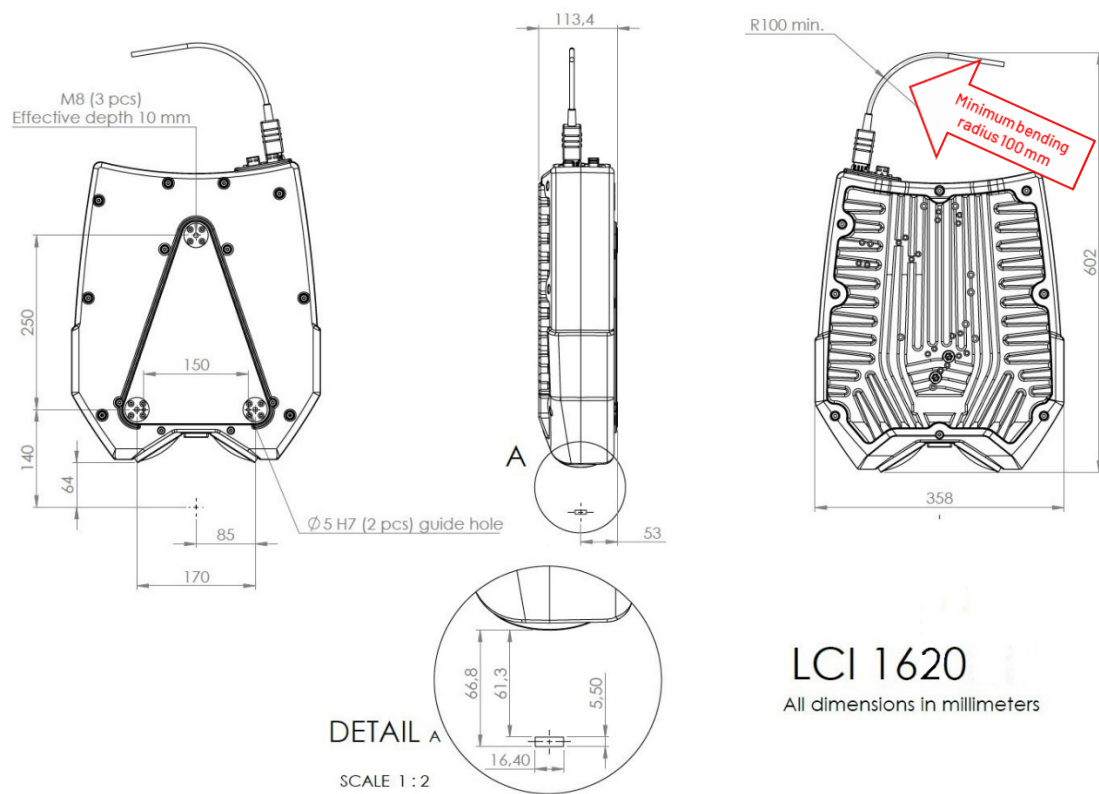

Figure 3. Installation and mounting of LCI1620.
6. Make sure the minimum bending radius of cable bend is about 100 mm (Figure 3). Don't let the cable bend more than this. This applies to the whole length of the cable and it is especially important to pay attention to computer end of the cable as it is more flexible.